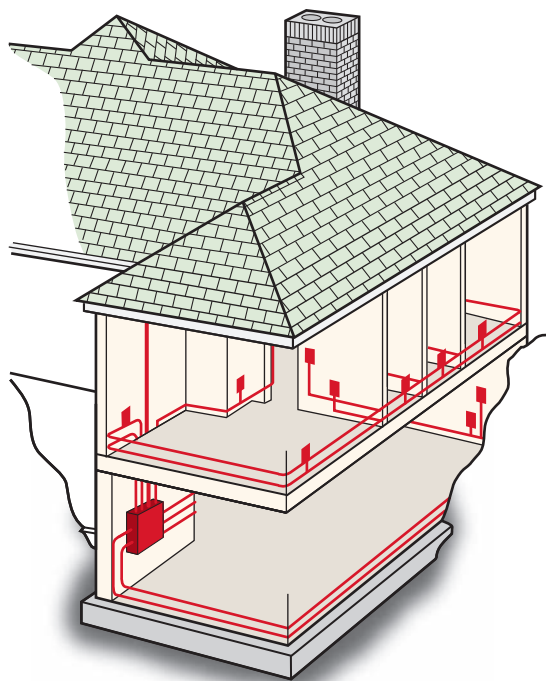

FIGURE 1-5 Three-dimensional view of house wiring. (Delmar/Cengage Learning)
The electrician must be able to (1) convert the 2-dimensional plans into an actual electrical installation and (2) visualize the many different views of the plans and coordinate them into a 3-dimensional picture, as shown in Figure 1-5.